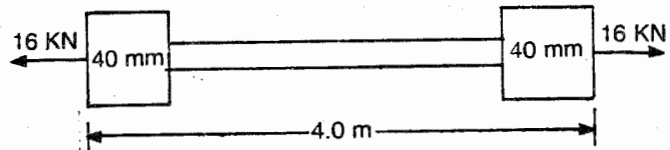

Fig. 1.45
- (16) A round bar shown in figure 1.45 is subjected to a pull of 16 kN. Determine the diameter of middle portion if the stress there is not to exceed 25 MPa. What must be the length of the middle portion if the total extension of the bar under the given load is to be 0.362 mm. Take $E = 200 \text{ kN/mm}^2$